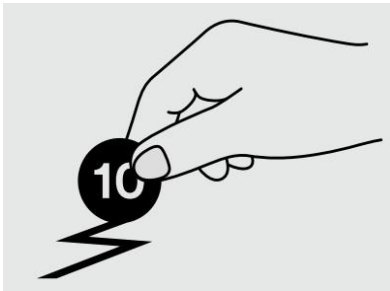

Figure 1: 3M™ DI-NOC™ Abrasion Resistant AR Series reduces visible scratches in high-traffic areas
- Reduces visible scratch in high-traffic areas (see Figure 1). Debris can be wiped off with a cloth.